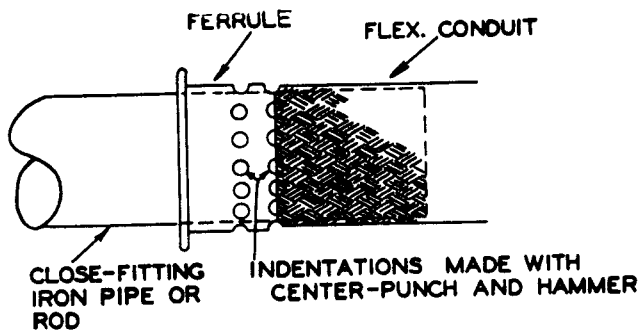

FIGURE 23. TEMPORARY METHOD OF CRIMPING FERRULE
(8) Place end of conduit in a ferrule crimping machine and crimp the ferrule firmly to the conduit at each end. Use the crimping machine recommended by the manufacturer of the fittings. A hand crimping tool can be used, if available; it is constructed similar to a pipe-cutting tool, except it has crimping rollers instead of the cutting rollers. If no crimping equipment is available in an emergency, place a close-fitting pipe or metal rod inside the conduit; use a center-punch with a rounded point, and light blows from a hammer to put two rows of indentations around the skirt of the ferrule. See figure 23. Make the dents deep enough to shape both skirt and aluminum BX, but not deep enough to cut through the BX. This is only an emergency measure and the old ferrule should be replaced by a new one, properly crimped, as soon as possible.
(9) Measure and cut wires the proper length for the conduit. Figures given here can only be approximate, as they will vary with the size and type of connector used and the length of the cable. For a straight connector, the wire should be cut to extend approximately $2\frac{1}{2}$ " at each end of the conduit. For right-angle connectors, approximately 4" of wire should extend from each end of the conduit. Add to this an additional inch for each 10' of cable, for slack.
(10) Strip insulation $\frac{5}{16}$ " from each end of wire. Insert a fish wire through the cable, bend the end of the wires together and attach fish wire. Pull wires straight through conduit.
(11) Slip a piece of insulating tubing over ends of each wire and slide it back out of the way. Cut insulating tubing sufficiently long so that, when it is finally slipped back over terminal pin, it will completely cover terminal sleeve and extend about $\frac{1}{2}$ " into conduit.
(12) Tin exposed ends of wires and insert them
(2) Thread only one wire through screw head, and twist two wires again to next screw head.
(3) After the last screw, twist the two ends of wire tightly together for about $\frac{1}{2}$ " , then bend close to shell. See figure 23. The safety wire prevents the screws from working loose with vibration.